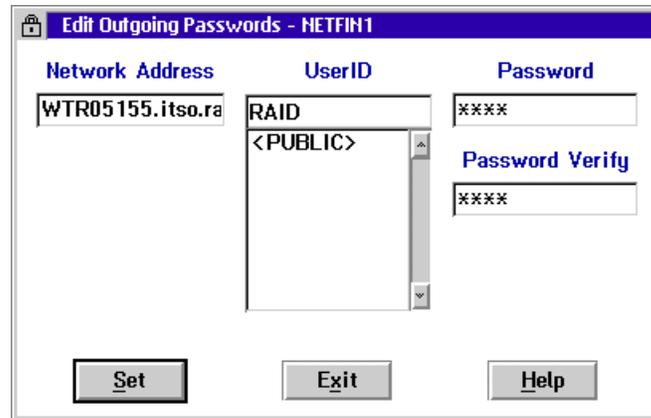

Figure 43. Defining Outgoing Passwords
3. Double-click on **Edit/Display Outgoing Passwords** then click on **Add**. Figure 43 on page 61 appears.